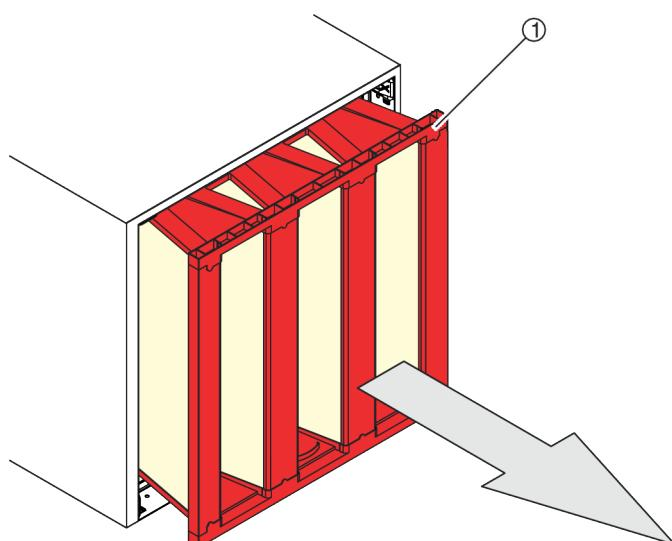

Fig. 20: Pulling out the filter element
4. ▶ Pull out the filter element (Fig. 20/1).